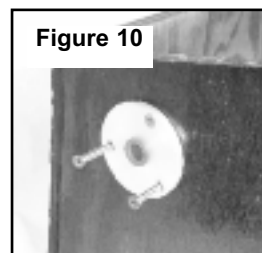

Figure 10
STEP 3: Place outside flange in 1-1/4" hole and place inside flange over small diameter of outside flange on inside of console. Tighten flanges together with 1/4" x 20 flat head screws (see figure 10) (NOTE: Depending on console thickness, a small diameter of outside flange and 1/4" x 20 flat head screws may need to be shortened).